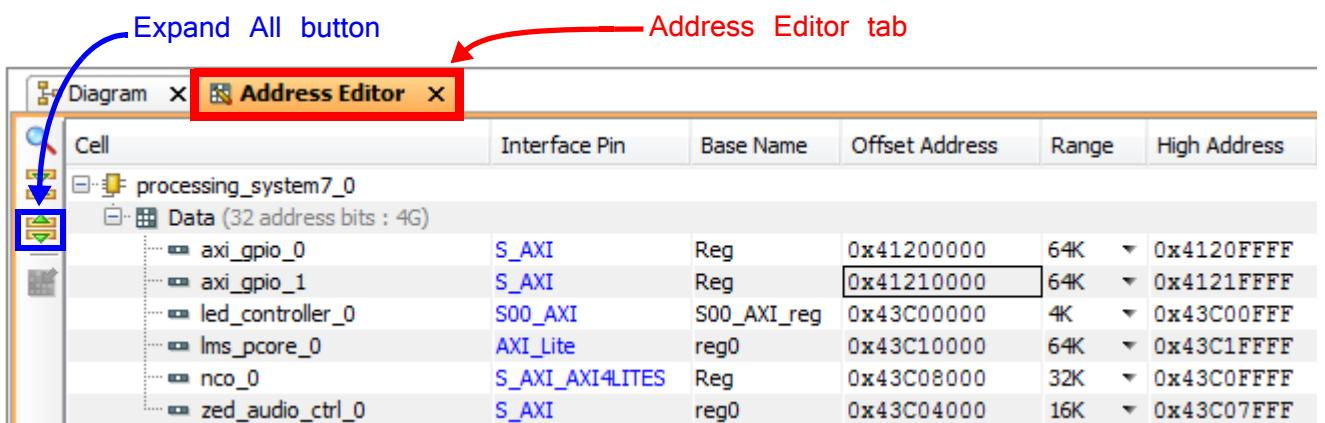

Figure 5.14: Address Editor tab
- (s) Select the **Address Editor** tab from the *Block Design* window, as highlighted in Figure 5.14.
- (t) Click the **Expand All** button, as highlighted in Figure 5.14.
If they do not match those in Figure 5.14, you must reassign the addresses by following the procedure in this step. If they match those in Figure 5.14, you can skip this step and move on to **Step (u)**.
- The *Offset Address* and *Range* for each peripheral *Cell* should now match those in Figure 5.14. If they don't, you can edit the *Offset Address* and *Range* values manually.